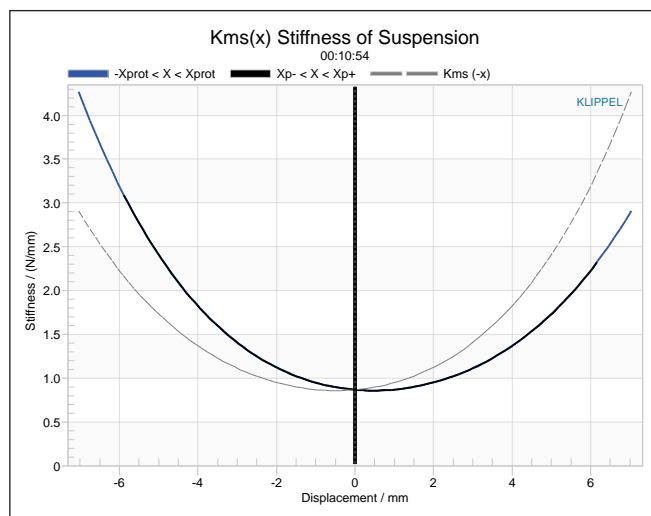
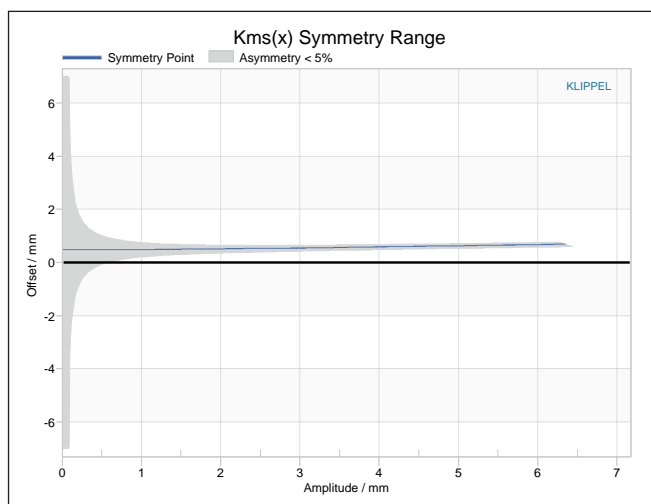

Figure 7: Klippel analyzer mechanical stiffness of suspension Kms(X) curve for the TB Speaker W4-2315 woofer.
Figure 8: Klippel analyzer Kms symmetry range curve for the TB Speaker W4-2315 woofer.
Figure 7 and **Figure 8** show the Kms(X) and Kms symmetry curves for the TB Speaker's W4-2315 coincident coax. The Kms stiffness of compliance curve (Figure 7) is also relatively broad and symmetrical, again for a small
diameter woofer, and with a degree of asymmetry. The Kms symmetry range curve (Figure 8) indicates a fairly constant forward offset of 0.5mm forward offset at the 1.0mm point of reasonable certainty and increases slightly 0.65mm at the 2.8mm physical Xmax point.